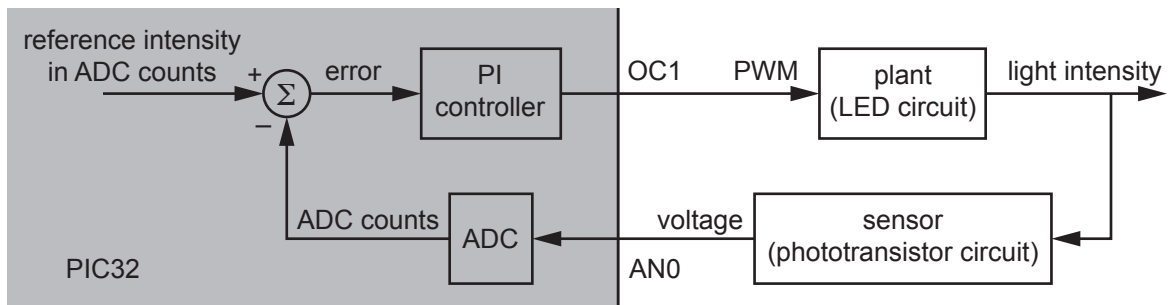

Figure 12.2: A block diagram of the LED intensity control system.
A block diagram of the control system is shown in Figure 12.2. The PIC32 reads the analog voltage from the phototransistor circuit, calculates the error as the desired intensity (in ADC counts) minus the measured voltage in ADC counts, and uses a proportional-integral (PI) controller to generate a new PWM duty cycle on OC1. This in turn changes the average brightness of the LED, which is sensed by the phototransistor circuit. This is a typical control system block diagram: the *plant* is the system we are trying to control, and the sensor provides the feedback that allows us to close the feedback control loop.